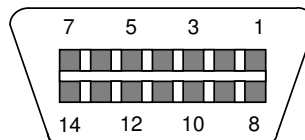

Figure 2-3: Pin assignments for the Load Cell Port
3. If you do not wish to use the shielded load cell cable, you may use own, following the pin assignments shown in Figure 2-3. (A 14-pin Male Centronics-type connector is required).